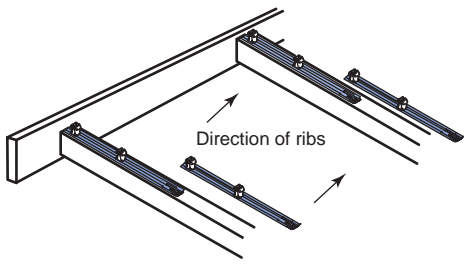

Figure 2
1. Lay and fix wire mesh to the supports in accordance with the appropriate building requirements. (Figure 2)